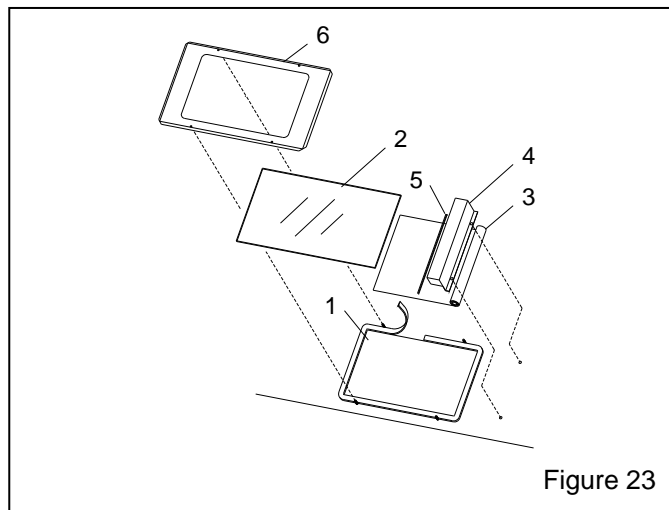

Figure 23
11.3 View Window Assembly, Figure 23